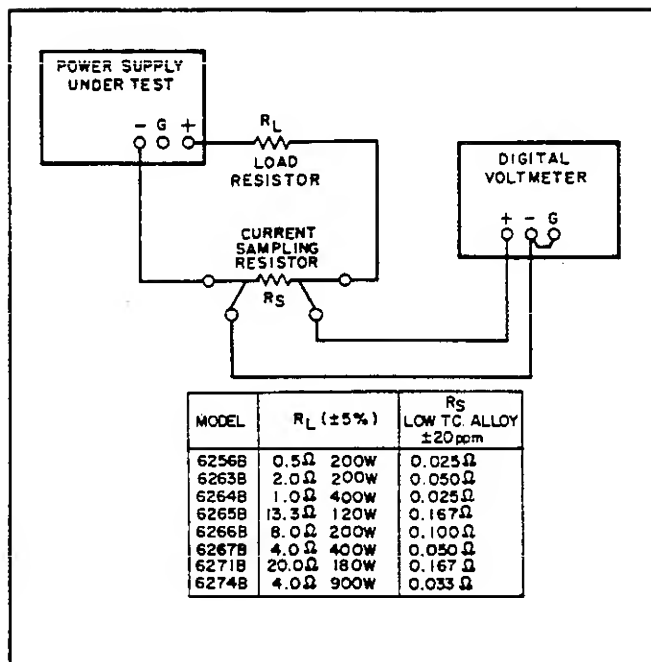

Figure 5-7. Constant-Current Load Regulation Test Setup
- Connect test setup shown in Figure 5-7.